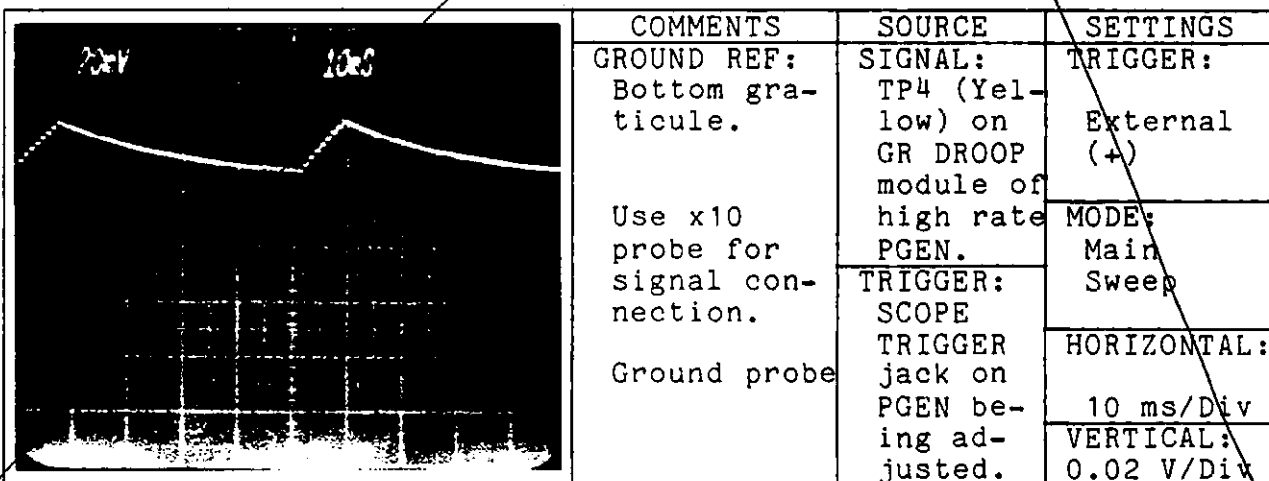

Figure 2.28. Proper Same Rate Ladder Waveform
f. Both ladder waveforms are now equal in magnitude, and the DC Reference level is approximately 1.1 volts. There should be no difference in the waveforms when the trigger is moved. If there is, repeat the above steps until the two waveforms are equal. When this is accomplished, this module is the standard. Do not adjust it in any of the following steps. Figures 2.28 and 2.29 show the proper appearance of the "standard" waveform.